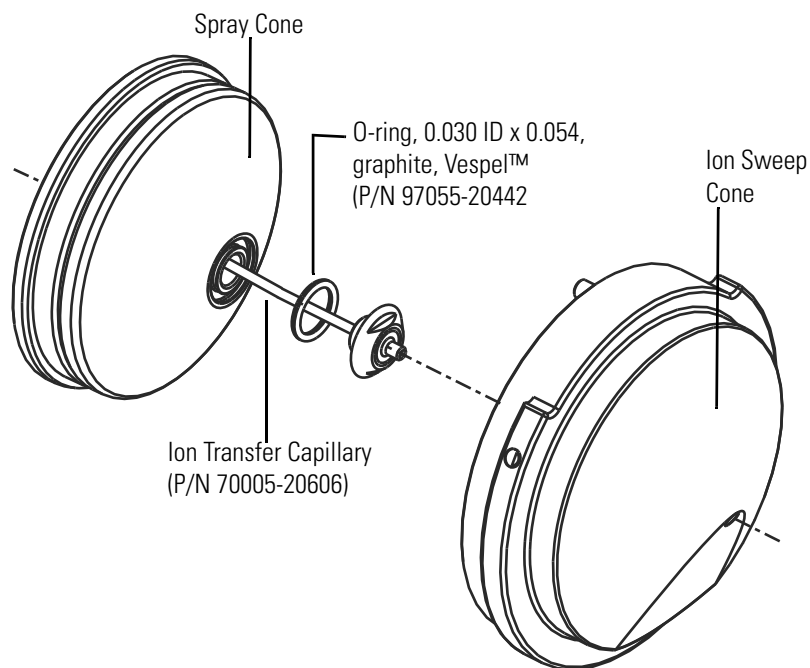

Figure 8-10. Spray cone, O-ring, ion transfer capillary, and ion sweep cone of the ion source interface with S-lens
5. Remove the ion transfer capillary by turning it counterclockwise with the custom removal tool until you can pull it free from the ion source interface. See Figure 8-10.